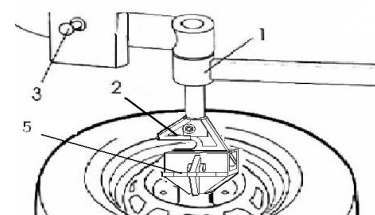

Fig 21
- 3- Insert the tyre pressing head (upper) 2 and tyre pressing head (bottom) 5 on the rotating arm 1. (Fig 21)